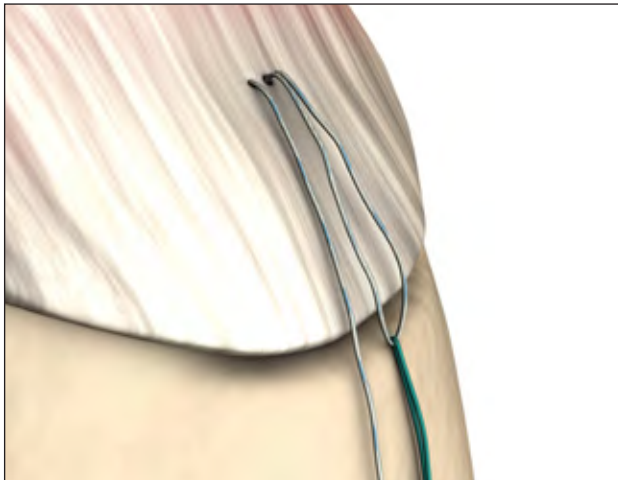

Figure 15
5. Approximately 2–4 mm beside the loop use the ACCU-PASS shuttle device again to shuttle the free KINSA RC suture limb up through a separate hole, so the free limb is also sitting on top of the cuff (Figure 15).